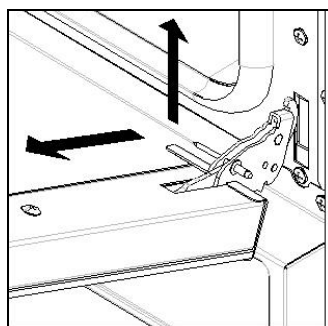

Fig. 9
- lift the door gently and withdraw it (Fig. 9).